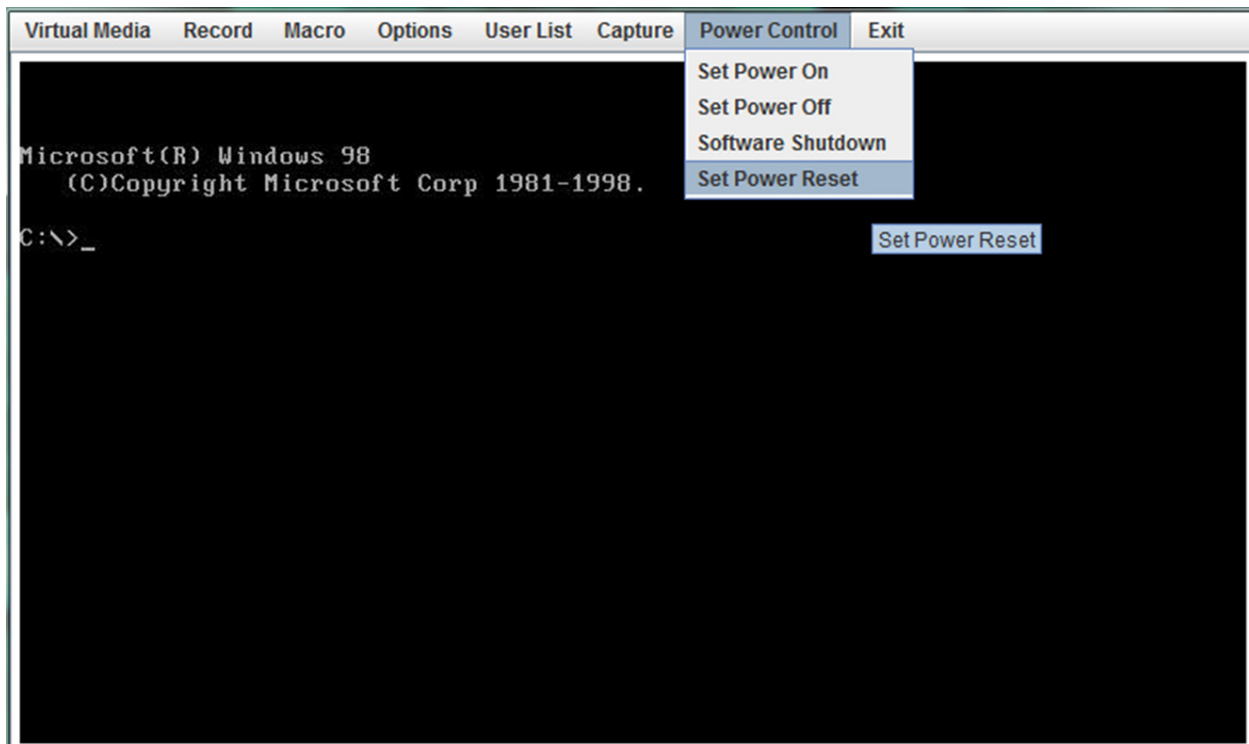

Figure A-10. Selecting Set Power Reset
- Reboot the SuperBlade module by selecting the Power Control -> Set Power Reset menu option from the KVM Console window. If the MicroBlade is not powered on yet, please select Set Power On from the menu (Figure A-10).